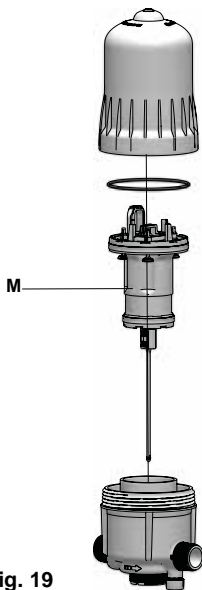

Fig. 19
- Unscrew the top and take out the motor (**Fig.19**)